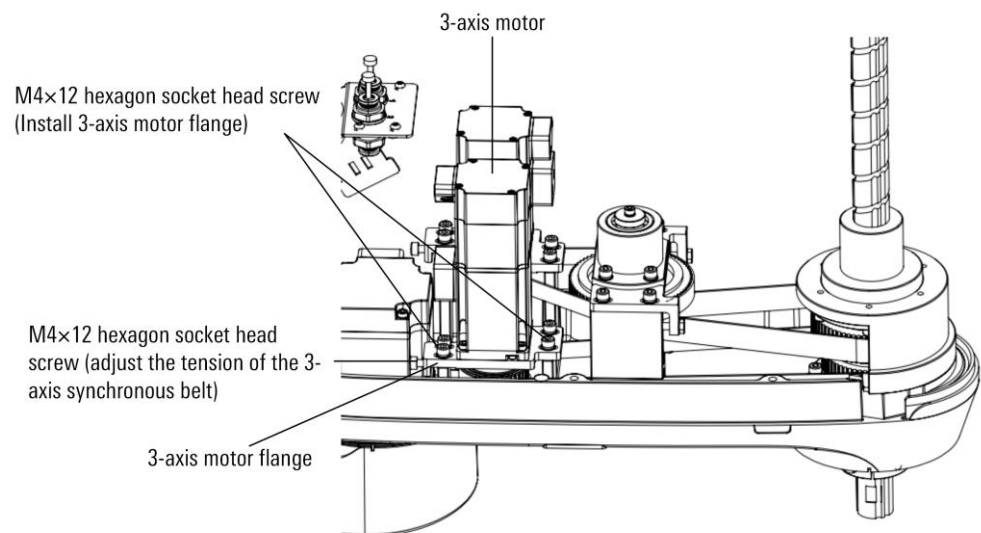

Figure 8-7 Schematic diagram of disassembling 3-axis motor flange
- Step3. Use an Allen wrench to remove the four M4×12 inner hexagon socket head screws that fix the flange of the 3-axis motor, and then slowly loosen the a M4×12 inner hexagon socket head screw that adjusts the tension of the 3-axis synchronous belt. Take off the flanges of the 3-axis motor and the 3-axis motor together, as shown in Figure 8-7.